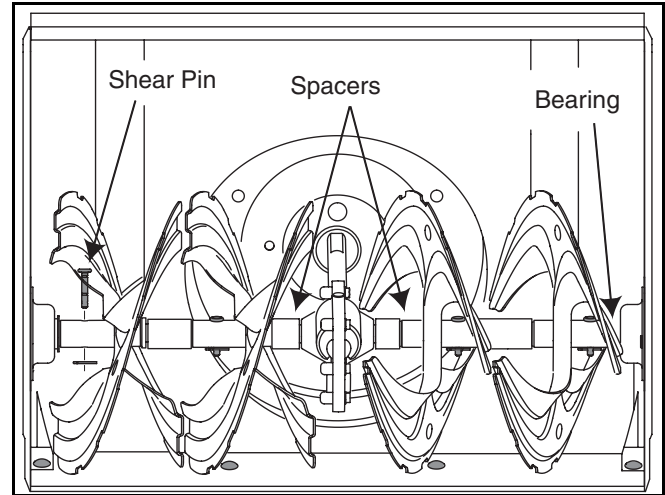

Figure 9
- At least once a season, remove the shear pins on auger shaft. Spray lubricant inside shaft, around the spacers. Also lubricate the flange bearings found at either end of the shaft. See Figure 9.
- The augers are secured to the spiral shaft with two shear pins and cotter pins. If the auger should strike a foreign object or ice jam, the snow thrower is designed so that the pins may shear. Refer to Figure 9.